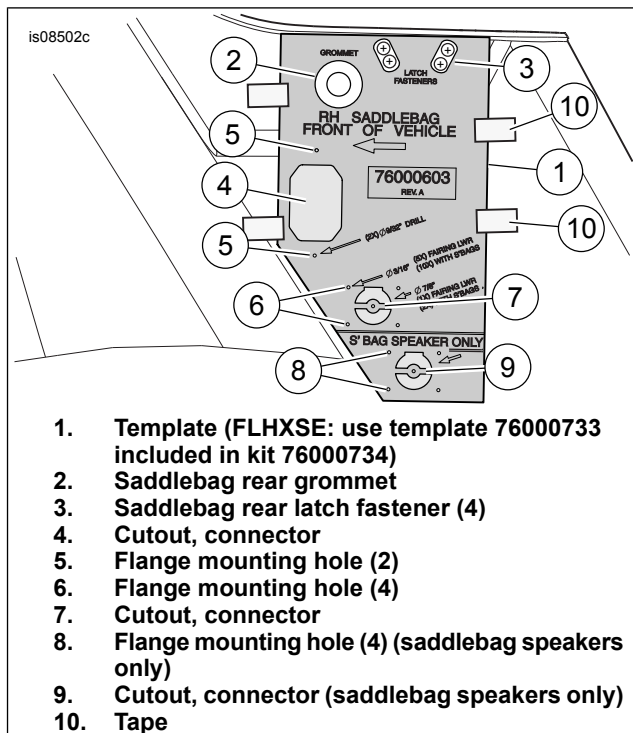

Figure 2. Right Saddlebag Cutout and Drilling For Stage II Harness Installation
2. See Figure 2. Place the saddlebag on a protected surface with the mounting (inboard) side facing up.
1. See Figure 2 Use the template (1) to cut the openings in the saddlebag for the **fairing lower** amplifier 18-way flanged connector [289-1].
- b. Place the template on the saddlebag. Align the grommet (2) and latch fastener (3) openings. Use tape (10) to secure the template in place.
- d. Trace the cut outline (4) onto the saddlebag. Trace the cut outline (7) onto the saddlebag.
- e. Drill two 9/32 in holes (5) for the connector flange mounting locations. Drill four 3/16 in holes (6) for the connector flange mounting locations.
See Figure 2, Items 6 and 7.